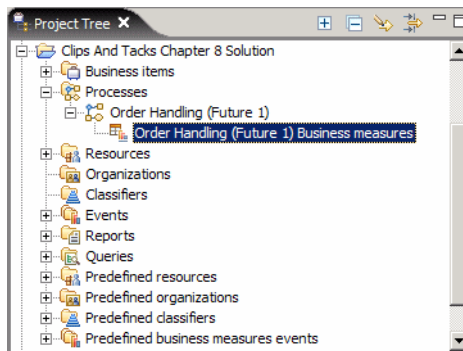

Figure 8-7 Business measures: Model
- ▶ A new business measures model node is created in the Project Tree under the process node (Figure 8-7).